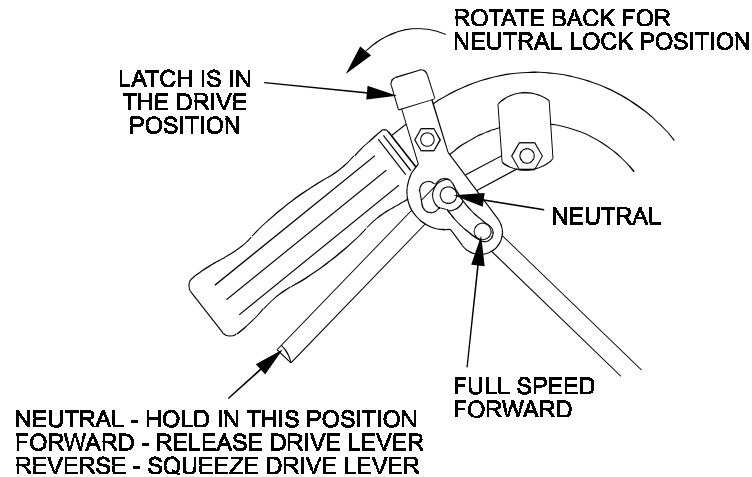

FIG. 4
- 4.1.1 Drive Levers: Located on each side of the upper handle assembly directly below the handle grips (See Figure 4). These levers individually control the speed and direction of each drive wheel. When the speed control lever is moved out of the neutral position and the neutral lock latches are moved into the drive position, as shown in Figure 4, and the drive levers are released, the drive wheels are engaged in the forward direction.
- 4.1.2 Neutral Lock Latch: Located directly above the drive levers. These latches allow the operator to lock the drive levers in a "neutral" position where neither of the drive wheels are engaged in either a forward or reverse direction. See Figure 4.
4.3.3 Drive Lever/Neutral Lock Latch Operation: To lock the drive levers in neutral, squeeze the drive levers back to the neutral position (**Do Not squeeze the drive levers all the way back as this will cause the drive wheels to go into full reverse direction**). Place thumbs on the upper portion of the neutral lock latches and move them to the rear. Release drive levers (See Figure 4).
For straight ahead motion, smoothly release both drive levers to engage drive wheels. Squeeze the right hand drive lever to turn right and the left hand drive lever to turn left. To make a “zero turn”, squeeze either the left hand or the right hand drive lever back into the reverse position while the opposite drive lever is in a forward position at an equal but opposite speed. To back up, squeeze both drive levers into the reverse position (See Figure 4).